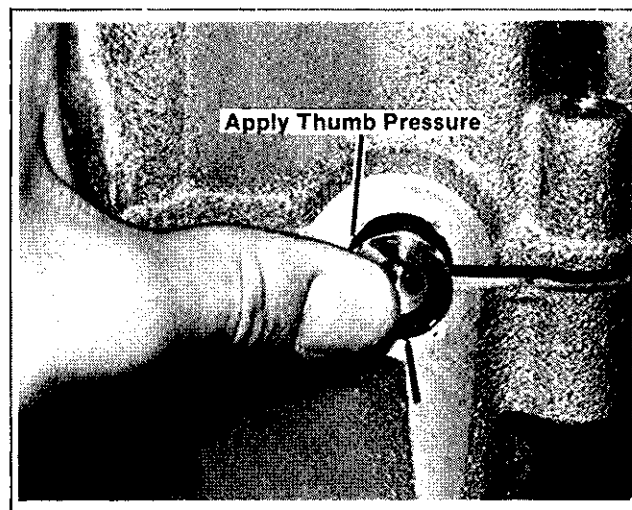

Figure 8-16. Installing #2 Crankcase Half
5. Place the #2 crankcase half on the #1 half. Place thumb pressure on the plug as the halves are brought together (see Figure 8-16). Maintain pressure on the plug as the crankcase fasteners are installed and tightened. This will ensure that the plug shoulder is bottomed tightly against the crankcase.